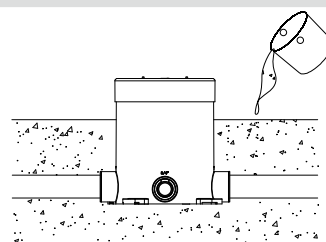

Fig. 7
6. Pour concrete to desired depth. (Fig. 7)